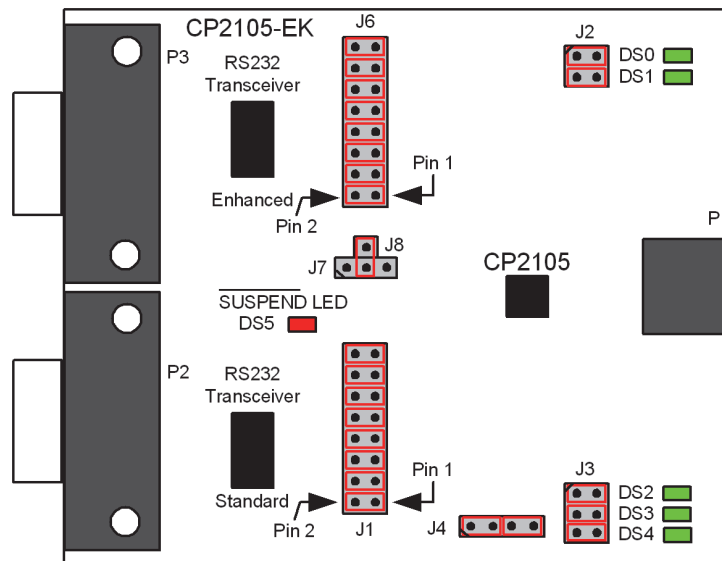

Figure 3. CP2105 Evaluation Board with Default Shorting Blocks Installed
The CP2105 Evaluation Kit includes an evaluation board with a CP2105 device preinstalled for evaluation and preliminary software development. Numerous input/output (I/O) connections are provided to facilitate prototyping using the evaluation board. Refer to Figure 3 for the locations of the various I/O connectors.
- Updated Figure 3 with shorting blocks installed.
- Corrected J1 and J6 Description for Figure 3.